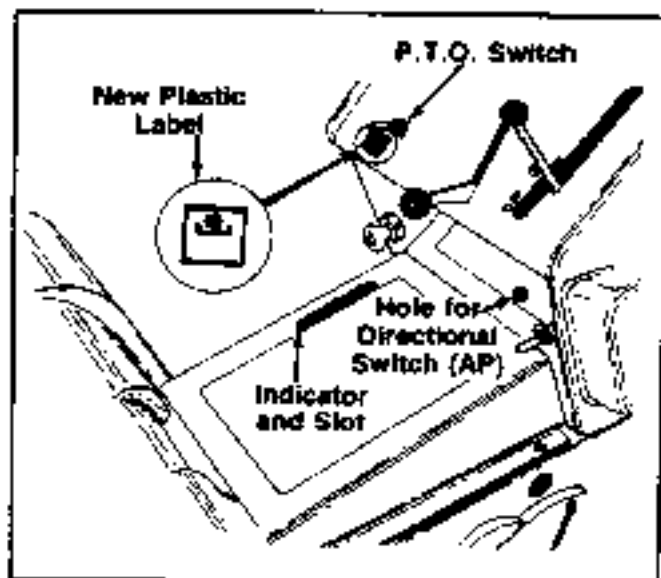

FIGURE 39. (Model 1572 Only)
55. Install directional switch (AP) in hole in pedestal as shown in figures 39 and 40.
57. Thoroughly clean the instrument panel area where the P.T.O. switch is located and attach new plastic label provided in kit, as shown in figures 39 and 40
59. Reinstall the frame cover to the tractor; be sure that the Indicator is through the slot in the cover. See figures 39 and 40.